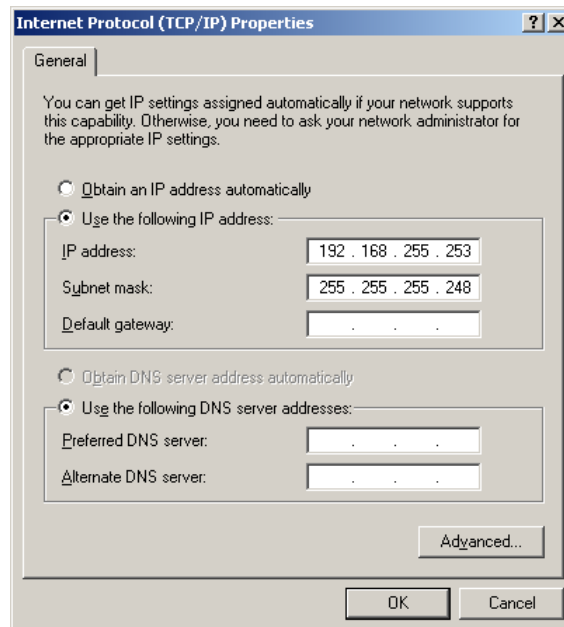

Figure 1.3-3 Internet Protocol (TCP/IP) Properties dialog box
The “Internet Protocol (TCP/IP) Properties” dialog box (Figure 1.3-3) will appear.
- (5) Set the IP address and subnet mask just as shown on the “Internet Protocol (TCP/IP) Properties” dialog box (Figure 1.3-3).